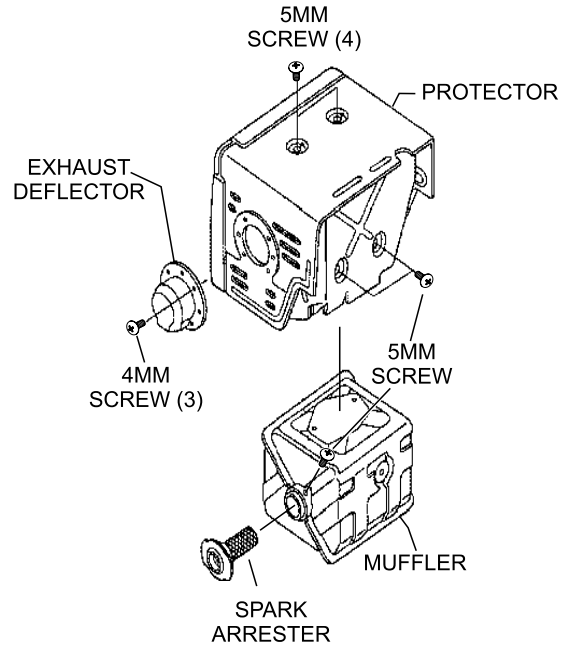

Figure 27. Spark Arrester
1. Remove the 4 mm screw (3) from the exhaust deflector (Figure 27), then remove the deflector.